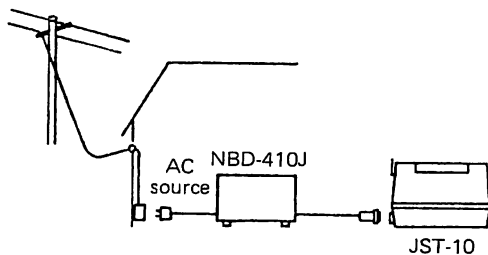

Figure 1.3.3 Connection of NBD-410J
- (1) Connect the Power Supply/Charger, as shown in Figure 1.3.3.
- (2) Set the POWER switch to ON. Then the green POWER indicator will illuminate. As the result, the battery pack or dry cells mounted in the battery case is disconnected from the transceiver and the Power Supply/Charger feeds it instead. At this time, the red CHARGE indicator illuminates to indicate the charge start, provided that the battery pack has been mounted in the transceiver.